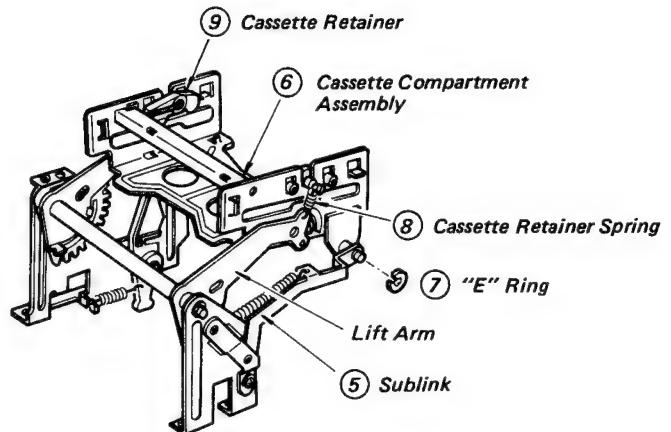
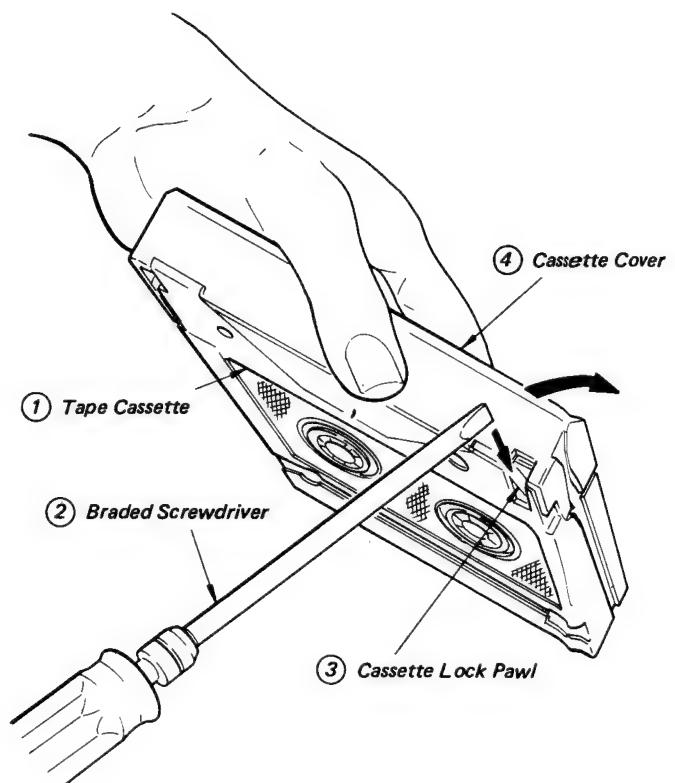

Fig. 5-5 Cassette Compartment Removal
Fig. 5-6 Cassette Lid Opening
## 5. Operating without Cassette Compartment Assembly (see Figs. 5-5, 5-6)
3. Remove the "E" ring (E-3) ⑦ and the sublink ⑤ on each side of the cassette compartment ⑥. cassette compartment ⑥. (see Fig. 5-5)
4. Unhook the cassette retainer spring ⑧ from the cassette retainer ⑨ on each side of the cassette compartment ⑥.
5. Take out the cassette compartment ⑥ for removal.
6. In turn, holding the cassette ① by your left hand, disengage the cassette lock pawl ③ using a bladed screw driver ②. (see Fig. 5-6)
7. Open the cassette cover ④ in the arrow direction (↗).
8. Leaving the cassette cover ④ open, place the cassette in position on the reel tables and cassette reference post.